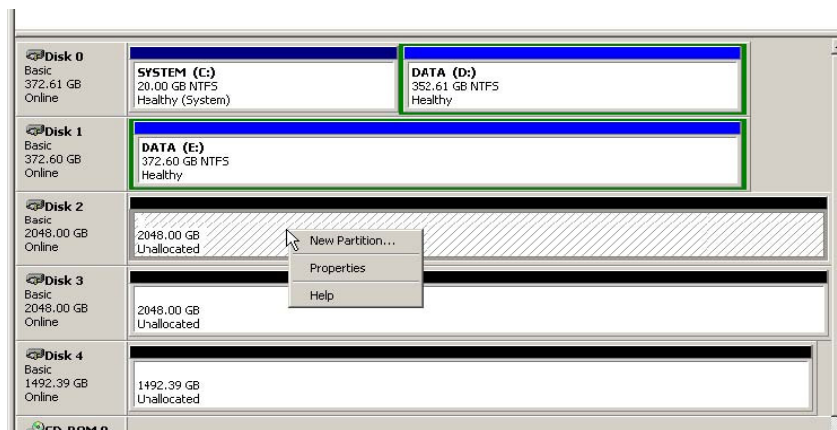

Figure 16
- Right click **Unallocated space** next to Disk2 and select **New Partition**. (See Figure 16)